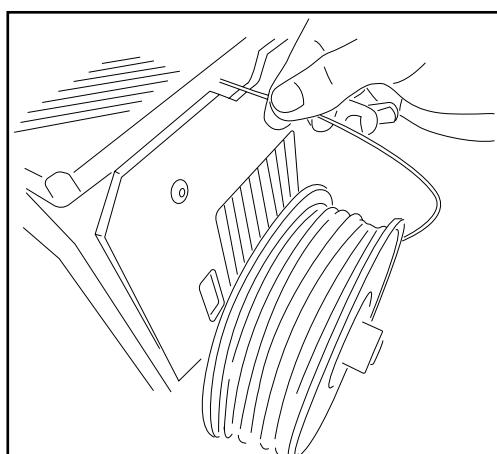

Fig. 3.18 Loading the filament
- ② The filament must be loaded at the rear of the Witbox via the connector attached to the Fibonacci guide tube (fig. 3.18). It is very important that you position the spool so that the loose end of the filament is on the right-hand side. Trim the end of the filament diagonally across with a pair of scissors; this will make it easier to guide the filament into the tube.